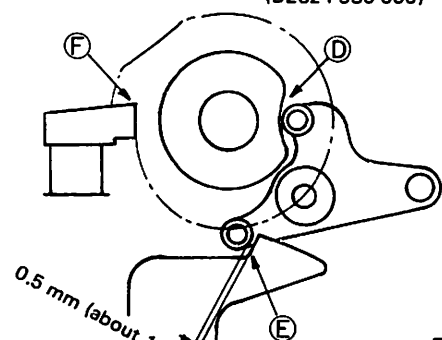

Fig. 43
Put the stop-motion hook into the stop-motion cam at point ⑤ as shown in Fig. 43 and let the cam roller rest in the recessed part of the thread trimmer cam (point ④). In this position, there must be a 0.5 mm (about 1/64") clearance at point ⑤.